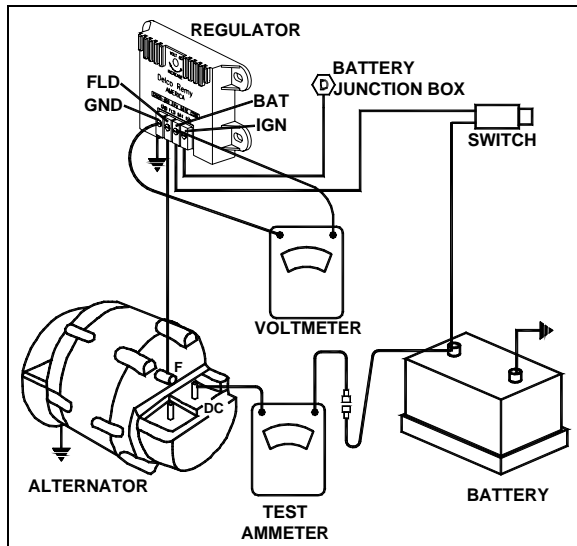

FIGURE 42: REGULATOR VOLTAGE SETTING 06416
1. To check the voltage setting, connect a voltmeter across the "POS" and "NEG" terminals on the regulator, and an ammeter to the "C" terminal on the alternator. Refer to figure 42.